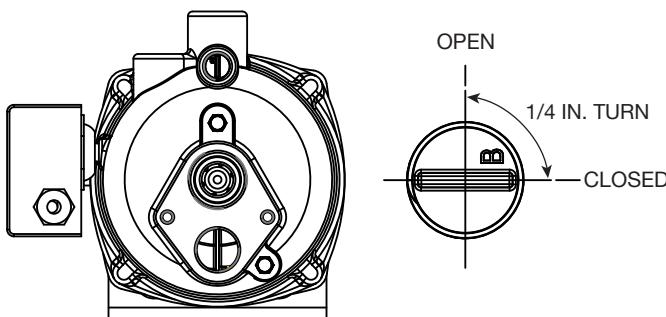

Figure 11 - Control Valve
**NOTE:** When the deep well pump is used with the bolt-on shallow well jet, be sure the control valve slot (Figure 11) is in the vertical (open) position at all times.
4. Close the control valve (Figure 11) and open a nearby faucet.